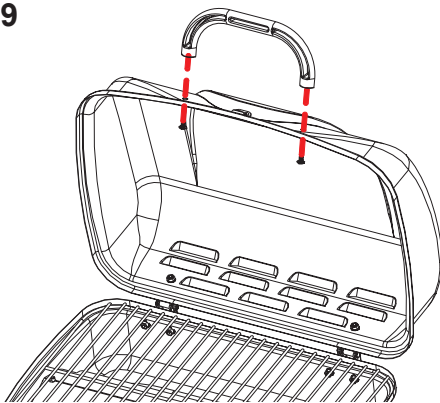

Fig. 9
Procedure: Attach the Grill Lid Handle to the Lid using (2) M5x10 bolts as shown in Fig. 9.